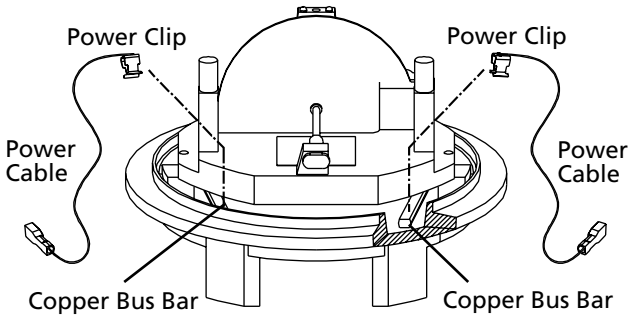

Figure 35. Attaching Power Clips
3. Attach the power clips to the copper bus bar on the inside of the meter using needle-nosed pliers. See Figure 35.